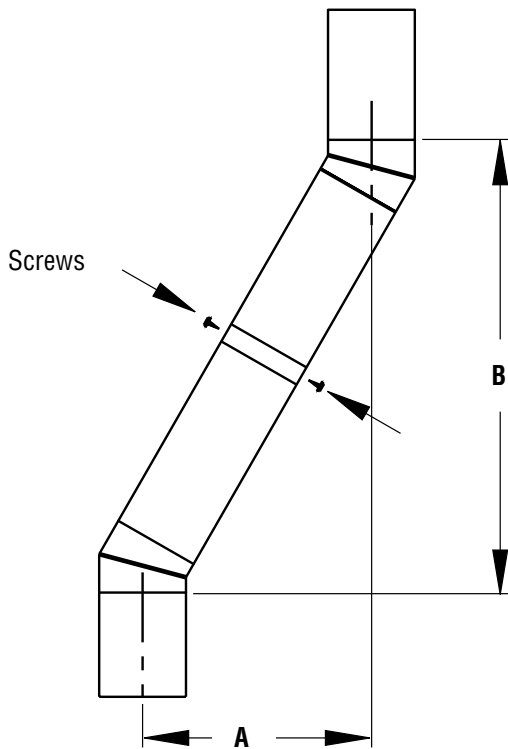

Figure 9 - Elbow Offset
Continue to assemble chimney sections as outlined, making sure that both inner and outer pipe sections are locked together. When installing double wall snap-lock chimney together, it is important to assure joint between chimney sections is locked. Check by pulling chimney upward after locking. Chimney will not come apart if properly locked. It is not necessary to add screws to keep chimney together (exception - see Figure 9, page 9).
4. All pipe connections between offset and return must be secured with two screws on outer pipe only (see Figure 9, page 9). Do not penetrate inner stainless.